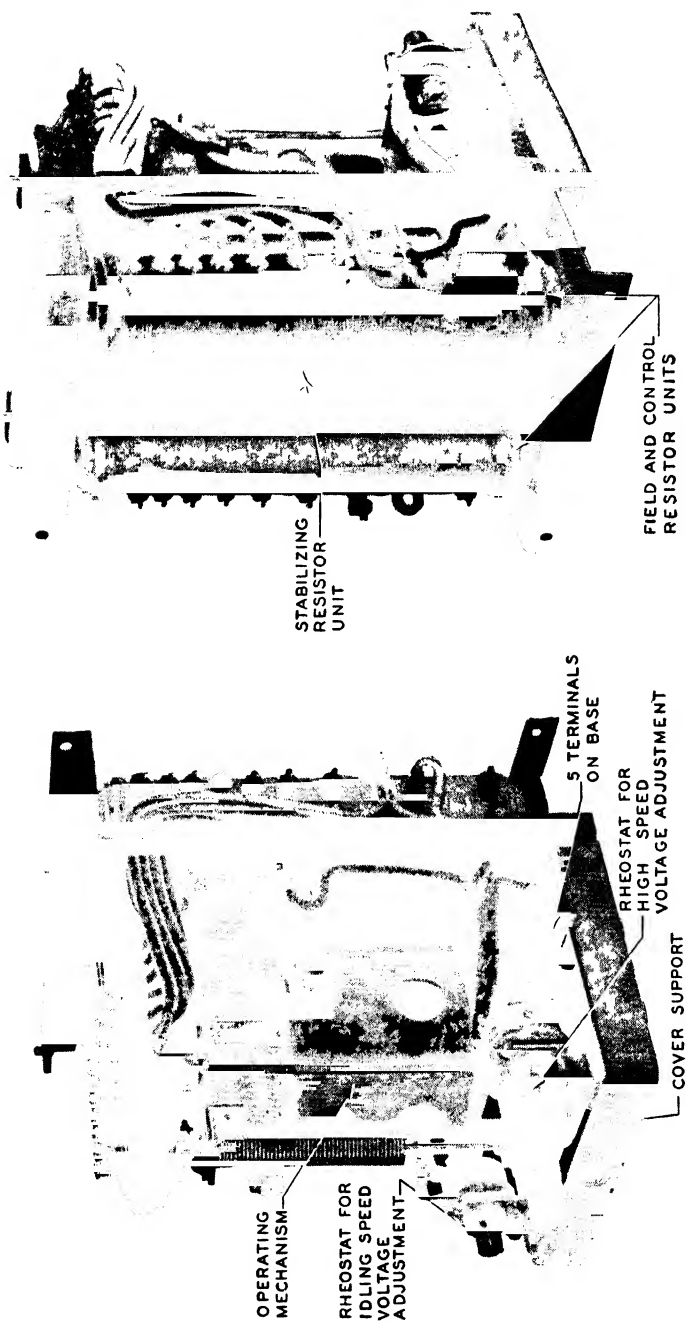
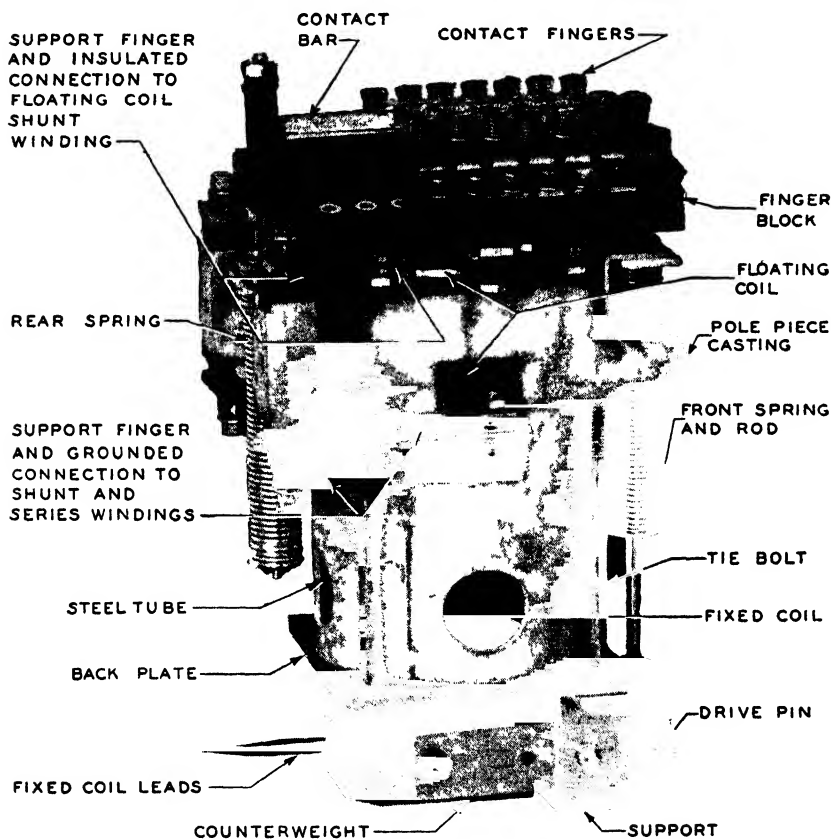
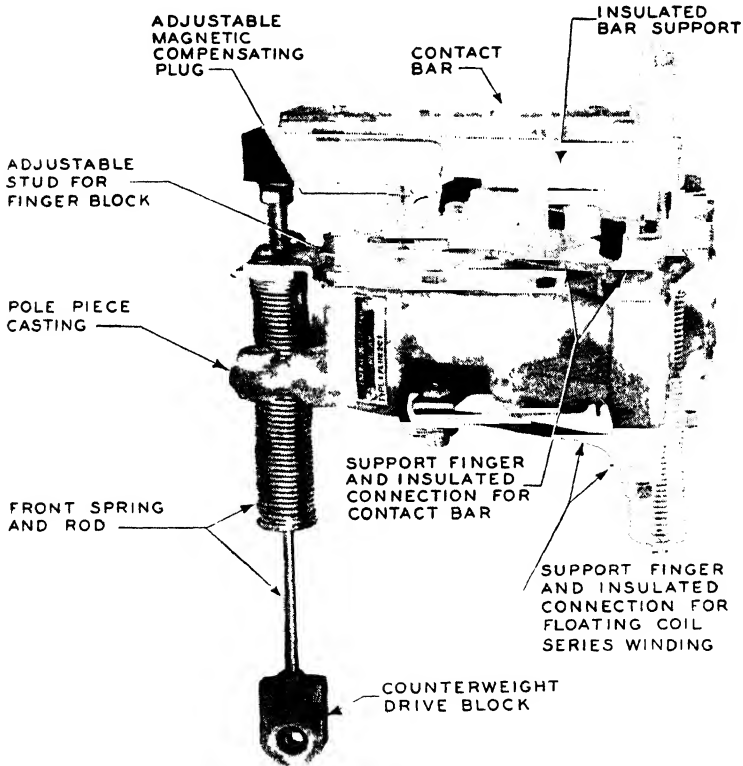
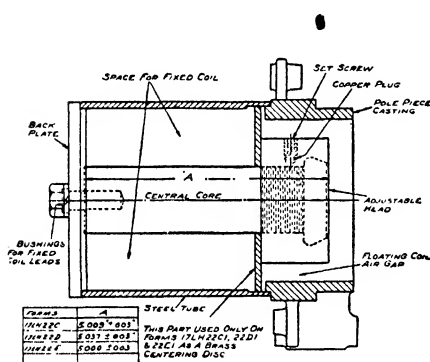

Fig 28 Voltage Control Relay for Auxiliary Generator, Right and Left View without Covers
Fig 29 Operating Mechanism of Voltage Control Relay for Auxiliary Generator
Fig. 30. Floating Coil and Supports of Voltage Control Relay for Auxiliary Generator
Fig. 31. Magnetic Structure of Voltage Control Relay for Auxiliary Generator
*Description.* Fig. 28 shows the assembled relay, Fig. 29 the operating mechanism, Fig. 30 the floating coil and supports, and Fig. 31 a cross section view of the magnetic structure. Internal connections are made with asbestos covered solid copper conductors.
After such removal of a bar or finger, check the sequence of the gaps as the floating coil moves in or out. See Fig. 31 for details.
In case the core adjustment is disturbed, it should be reset at the dimensions shown in Fig. 31.